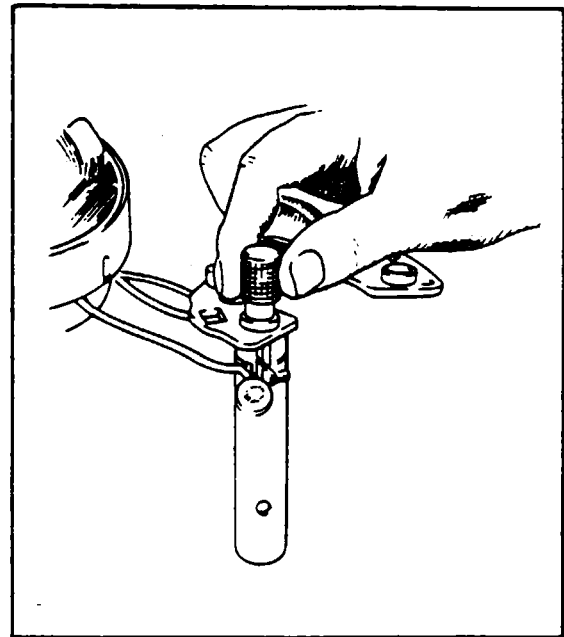

Figure 11-24. Removal of Rectifier
- d. Remove the nuts, lock washers, flat washers and insulators from the output and auxiliary terminal studs. Note carefully the correct assembly of the insulator washers and bushings. Using the special tools shown in Figure 11-24, support the end head and press out the three negative rectifiers. The end head can now be separated from the stator assembly.